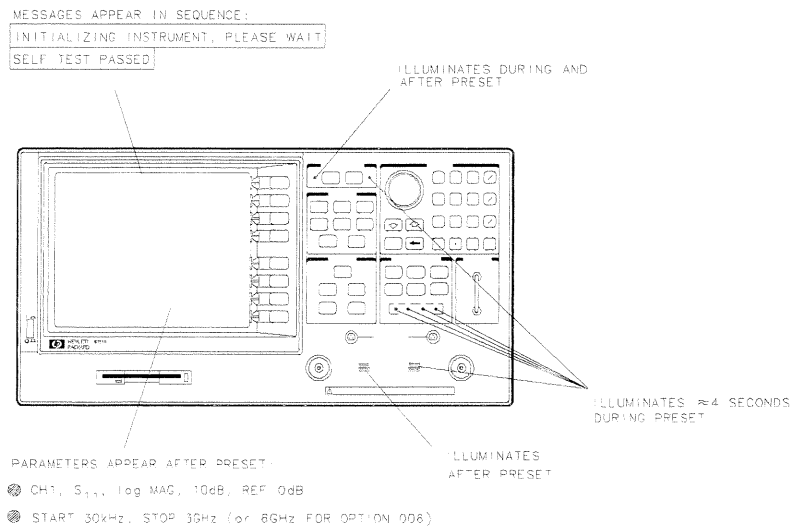

Figure 6-4. Preset Sequence
2. Observe that all front panel LEDs turn on and, within five seconds after releasing **PRESET**, all but the CH1 LED turns off. Refer to Figure 6-4.